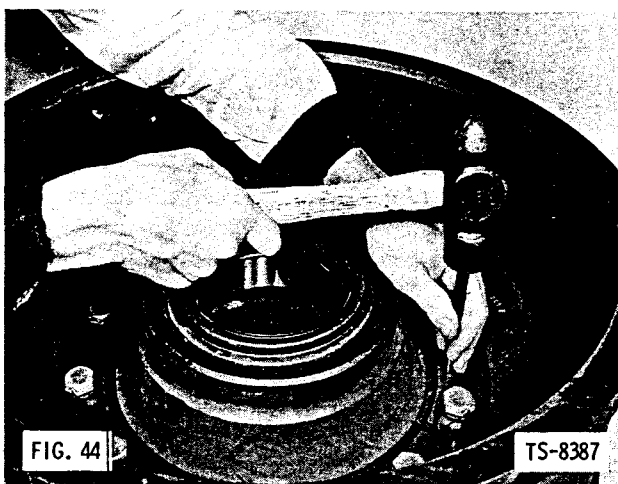

FIG. 44
1. Matchmark hub and drum to insure proper reassembly (Fig. 44).